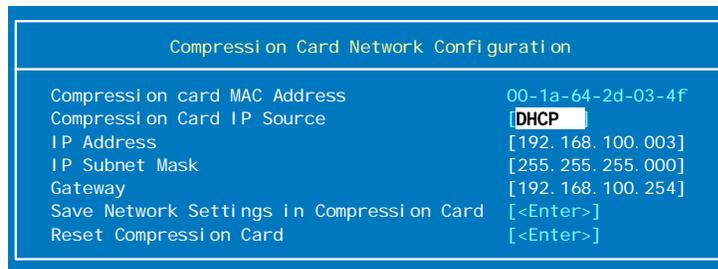

Figure 6-61 IP address of the HC10's compression card
3. The IP address and MAC address are listed as shown in Figure 6-61.